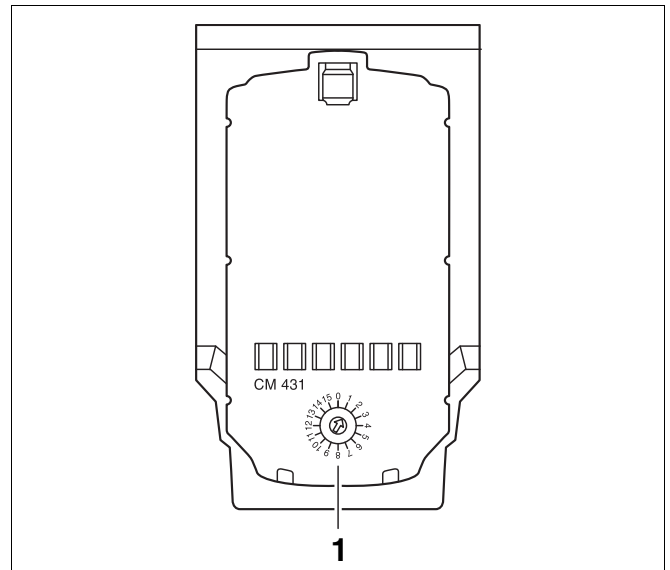

Fig. 9 Setting addresses
For the address setting (→ Fig. 9, [1]) see module CM431 (behind the MEC2 programming unit) for Logamatic 4321/4322 control units.
- Select the control unit address with a screwdriver (→ Fig. 9).